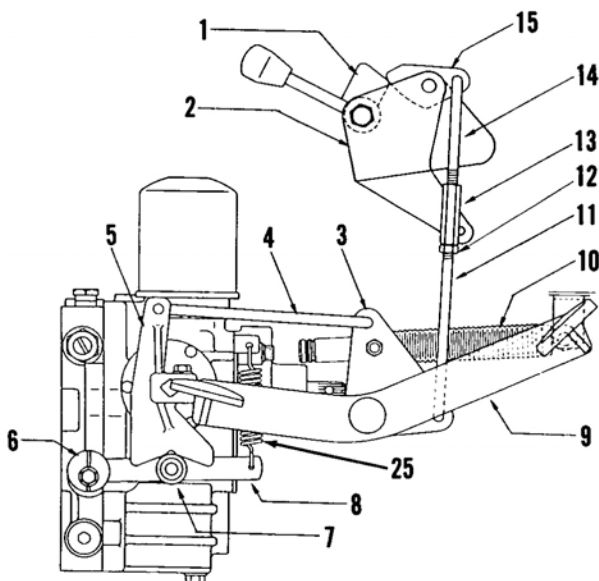

Fig. 48—View showing hydrostatic transmission control linkage.
62. OPERATION. View of linkage is shown in Fig. 48. Neutral holder (5—Fig. 48) is connected to transmission
If true neutral position cannot be found by adjustment procedure, move neutral holder arm (8—Fig. 48) by hand to determine if true neutral position can be obtained. If neutral cannot be found, problem may be located in the neutral valve.
65. Drain transmission/hydraulic system fluid into a suitable container. Remove hydrostatic transmission protective cover as follows: Remove speed control knob, left and right hood latch, front and rear mounting cap screws, then withdraw cover. Remove hydrostatic transmission oil filter and joint. Raise hood and disconnect negative battery cable from battery post. Detach hydraulic lines as needed. Disconnect speed control rod (4—Fig. 48) from rod guide (3). Remove right and left brake pedal rods. Remove differential lock shaft. On four-wheel drive models,